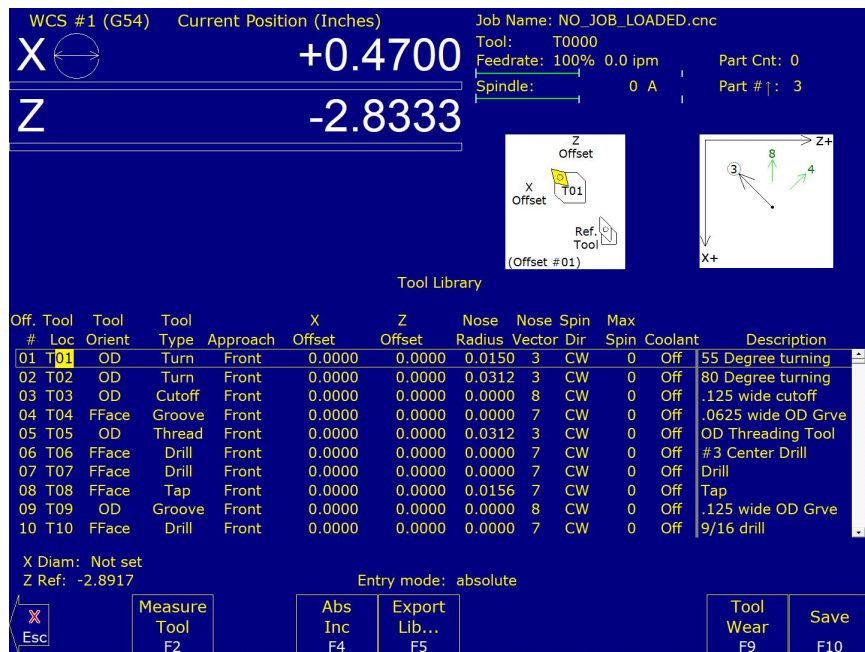

Figure 5.3: F2 – TOOL OFFSET menu screen
2. From the Home screen, press **F1 – Setup** → **F2Tool Setup**. You will now have the screen shown in Figure 5.3 pulled up.